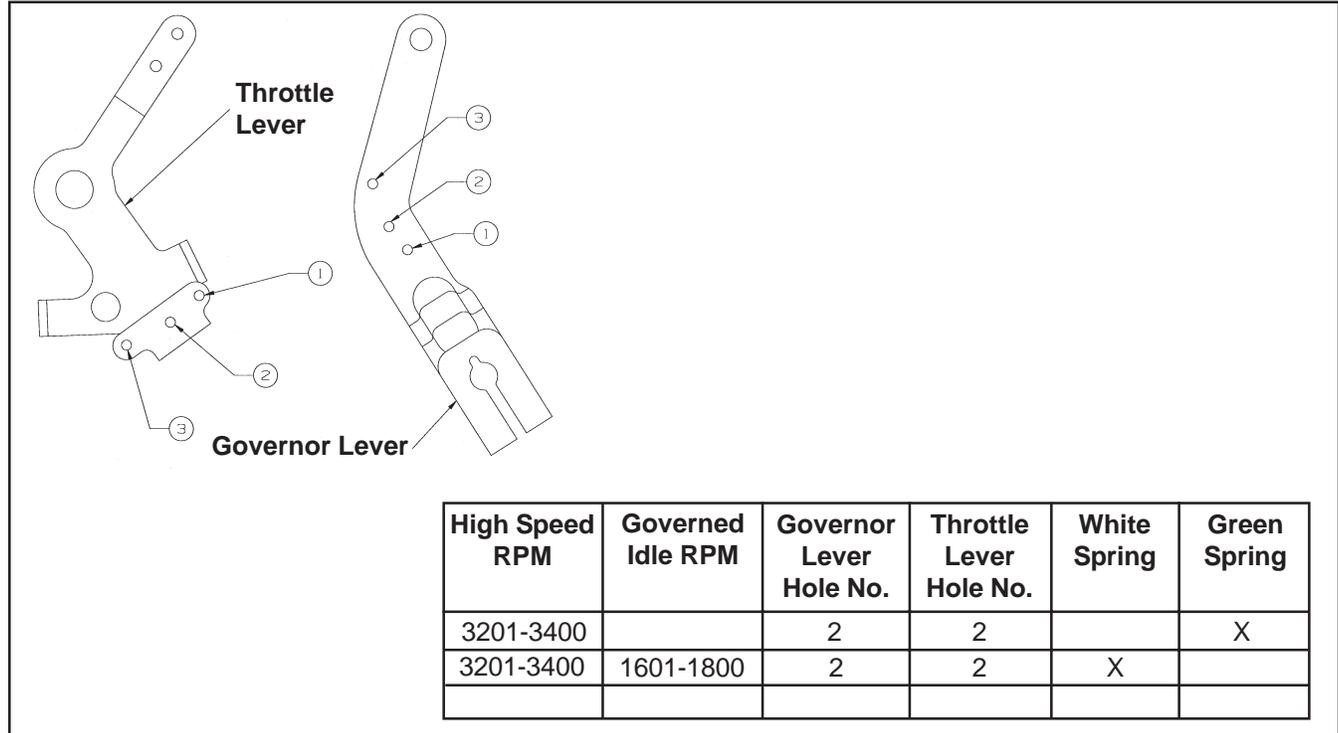

Figure 5-23. Governor Spring Location Chart.
1. Check that the governor spring and installation matches the intended high speed RPM operating range. Refer to Figure 5-23.
The desired high speed setting (RPM) will determine the governor spring position in the governor lever and the throttle lever, as well as the spring used. See Figure 5-23.